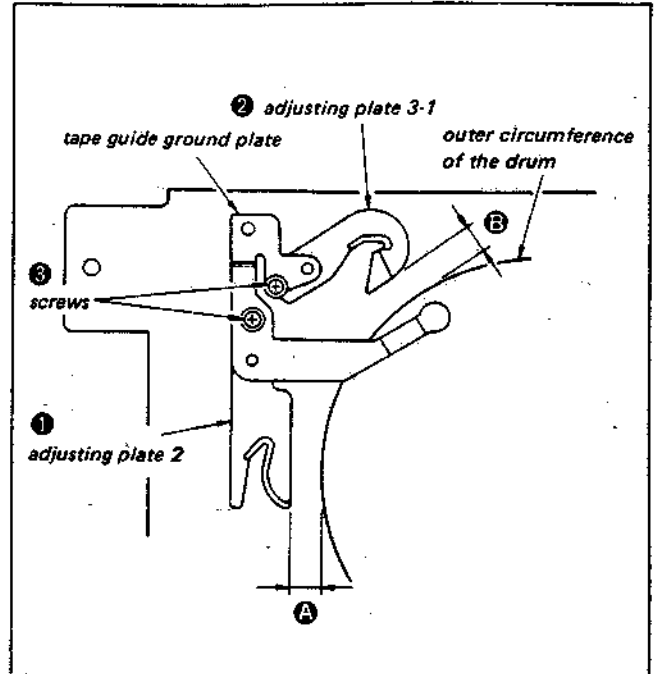

Fig. 3-5. Measurement of the position of adjusting plates 2 and 3-1
- 3) Remove the screws shown in Fig. 3-5, then remove the tape guide ground plate and adjusting plates 2 and 3-1.